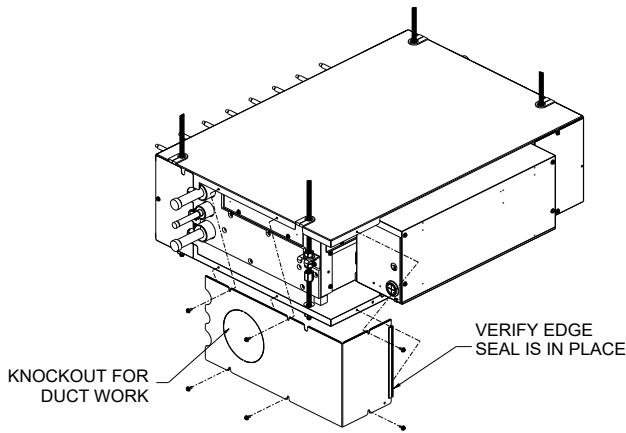

FIGURE M.7
4.2 Install the Right Panel by placing it over the side flanges of the top and bottom panels, then secure it at each indicated location. Ensure the edge seal is correctly seated. (Refer to Figs. M.7 and M.8)